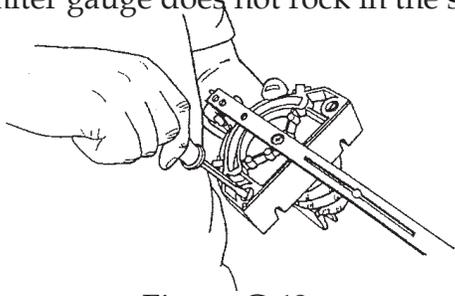

Figure C-49
- b. Use a medium screwdriver to screw the glides in or out, as shown in Figure C-49, so that the glides hold the miter gauge  $1/64$ " to  $1/32$ " off the worktable and the miter gauge does not rock in the slots.